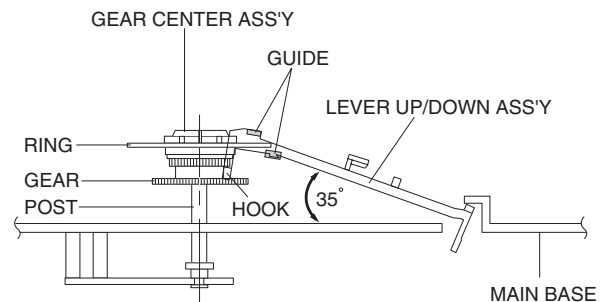

Fig. 4-4-20 Lever Up/Down Ass'y Removal
- 1) Insert the Lever Up/Down Ass'y into the rectangular hole in Main Base as shown in Fig 4-4-20.
- 2) Lift the Lever Up/Down Ass'y approximately 35°. (Refer to Fig 4-4-20)